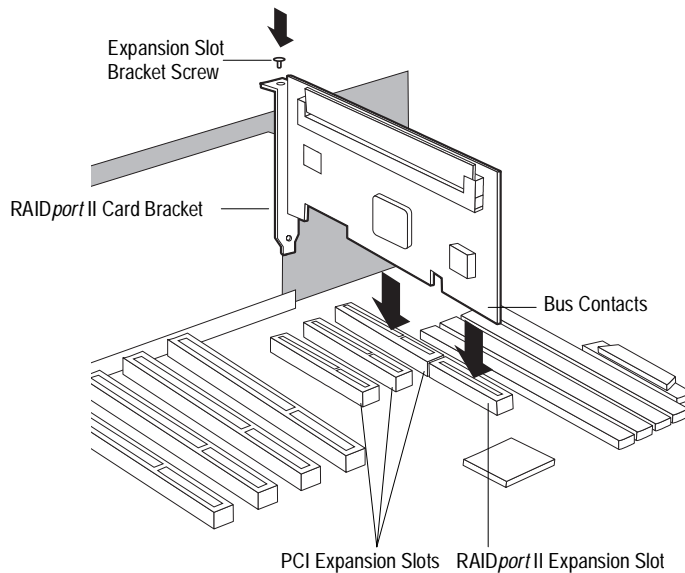

Figure 2-3. Installing the ARO-1130CA in a Typical PCI/RAIDport II Expansion Slot
- 4 Insert the ARO-1130CA in the slot; press down firmly so that the bus contacts are securely seated in the slot. Secure the adapter bracket with the screw you removed in Step 3, as shown in Figure 2-3.